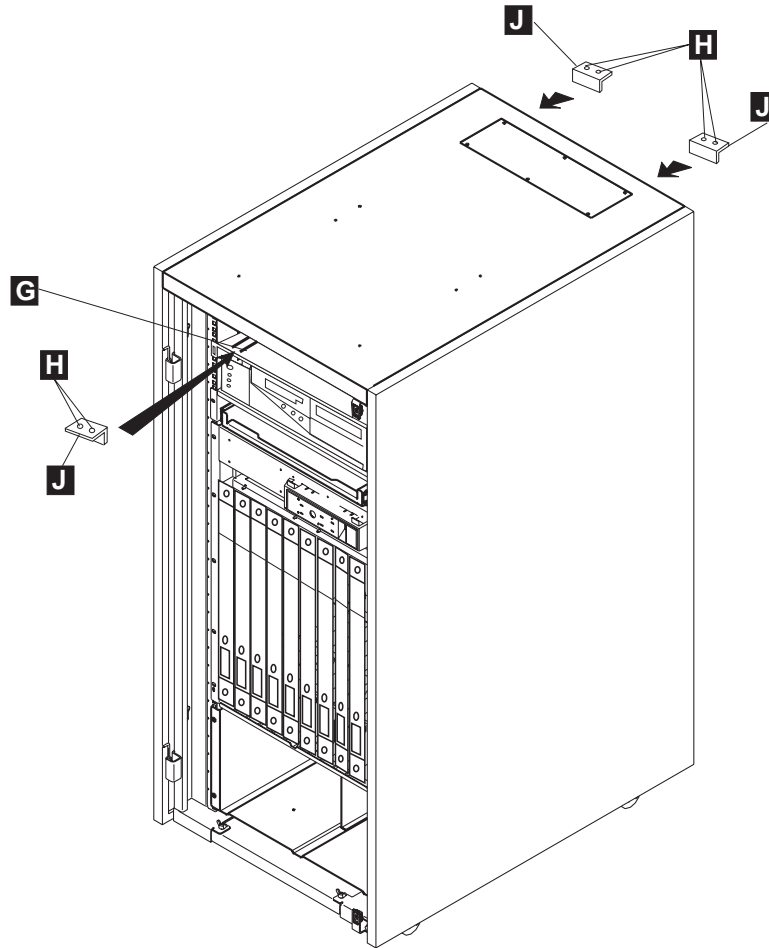

Figure 1-27. Installing the Retainers to Secure the NAS in a 29U rack
7. ____ From the rear of the rack, push the NAS against the retainer previously installed. Install two retainers **J** under the upper plate **G** in order to maintain the NAS. Secure them using screws **H** (see Figure 1-27 on page 1-22).